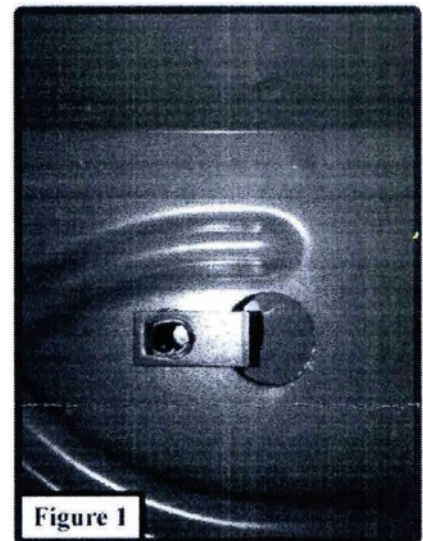

Figure 1
STEP 3: If your vehicle requires the use of clips install them now. This requires the removal of a plastic body plug. Using a screwdriver remove the plug and install one of the supplied clips as seen in Figure 1.